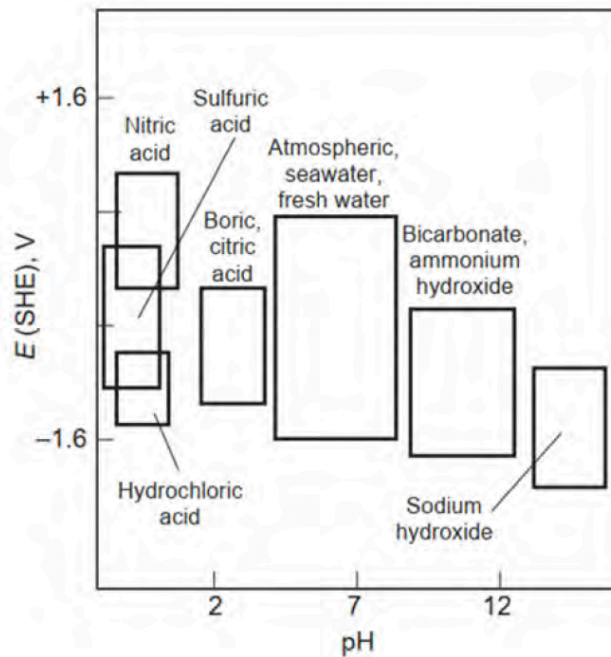

Fig. 5.3: Approximate locations of several common environments on a potential-pH diagram. SHE, standard hydrogen electrode
1. Oxidizing/Reducing Power (Fig. 5.3):